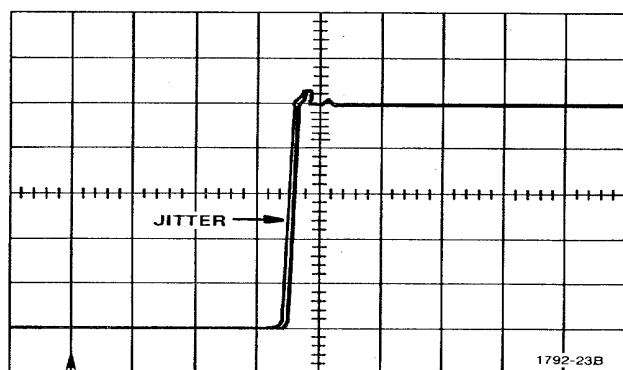

Figure 4-2. Jitter Check.
21. Check that the jitter is not greater than 0.1 division (200 ps). See Fig. 4-2.
49. Check that the jitter is not greater than 0.1 division (200 ps). See Fig. 4-2.